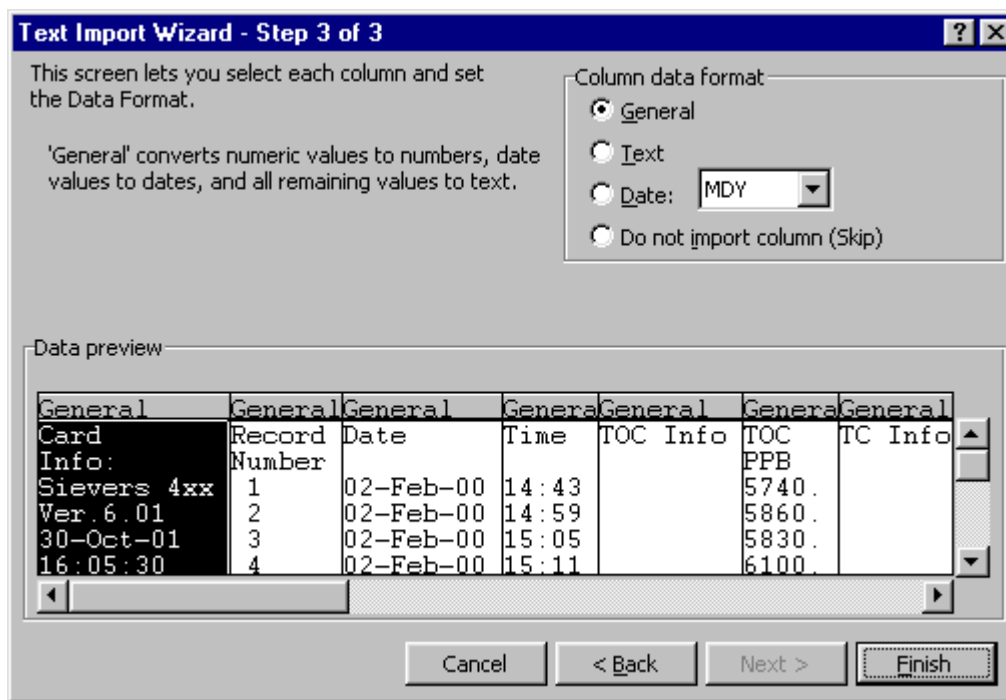

Figure 53: Step 3 of the MS Excel Text Import Wizard
- Excel shows a preview of the data that will be imported. If desired, you can highlight a column and assign a **Column data format** (Figure 53). Press **Finish** to continue.